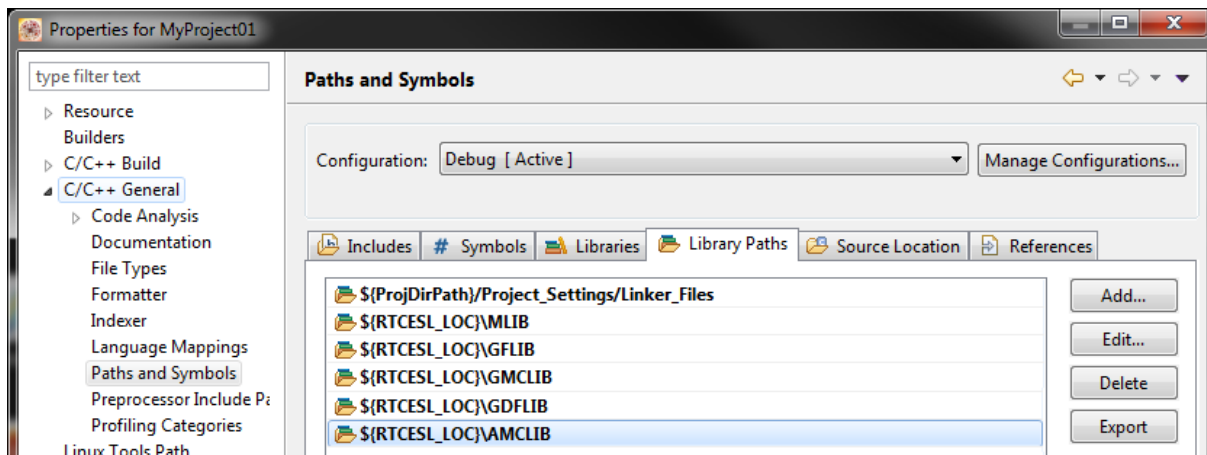

Figure 1-12. Library paths
3. In the right-hand dialog, select the Library Paths tab. See Figure 1-12.
14. Click OK, and the paths will be visible in the list. See Figure 1-12.